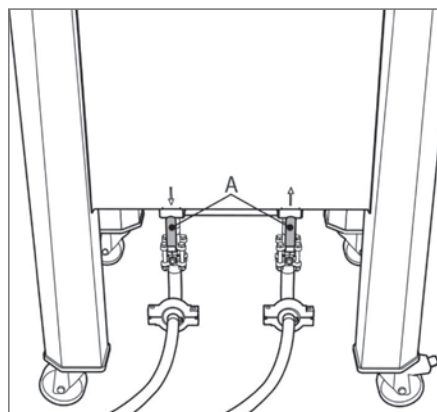

Figure 52 The PED version of the Palletank® Jacketed for LevMixer® is fitted with manual  $\frac{3}{4}$ " Ball valve and  $\frac{3}{4}$ " Tri-Clamp connection
- Connect the inlet and outlet of the Palletank® heat transfer fluid circuit to the heating | cooling system. The inlet and outlet of the heat transfer fluid circuit are located on the back of the Palletank® (see Fig. 52 and 53).
- Open the two manual ball valves if required (see Fig. 52 | A) and start filling the heat transfer fluid into the dimple jacket circuit according to your internal procedure.